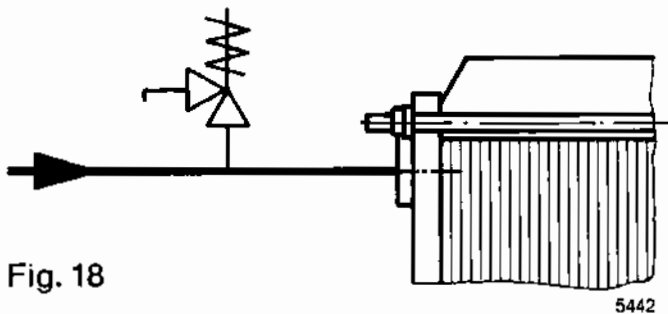

Fig. 18
**EXCESS PRESSURE PROTECTOR** must always be mounted (fig. 18), if the plant is likely to develop a higher pressure than that stated on the machine plate. This condition may arise during pump start-up, expansion or valve change-over etc.